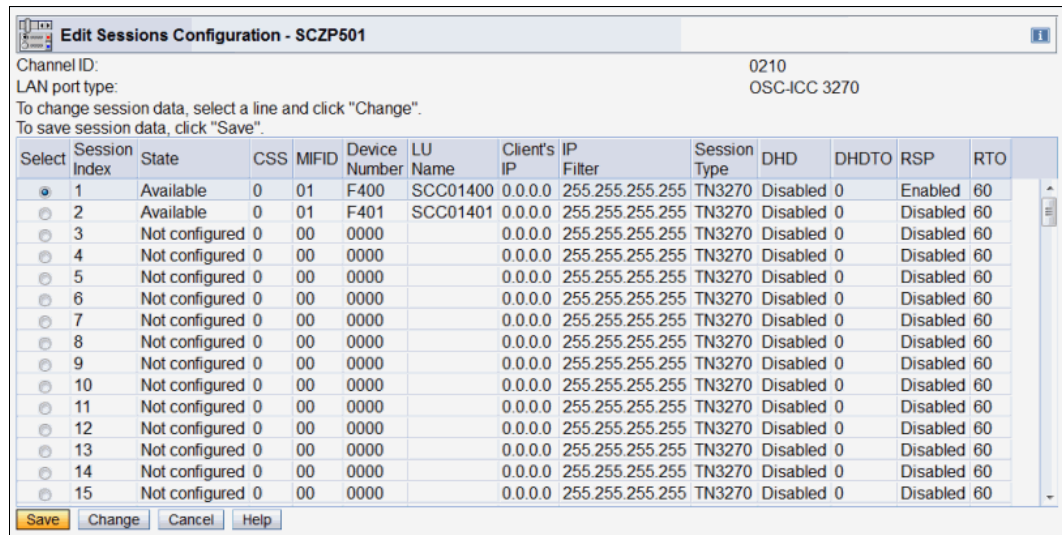

Figure 14-94 OSA Advanced Facilities: Edit Sessions Configuration after define value
10. You are returned to the Edit Sessions Configuration panel again (Figure 14-94). Be sure that your input values are displayed correctly. To save session values, click **Save**.